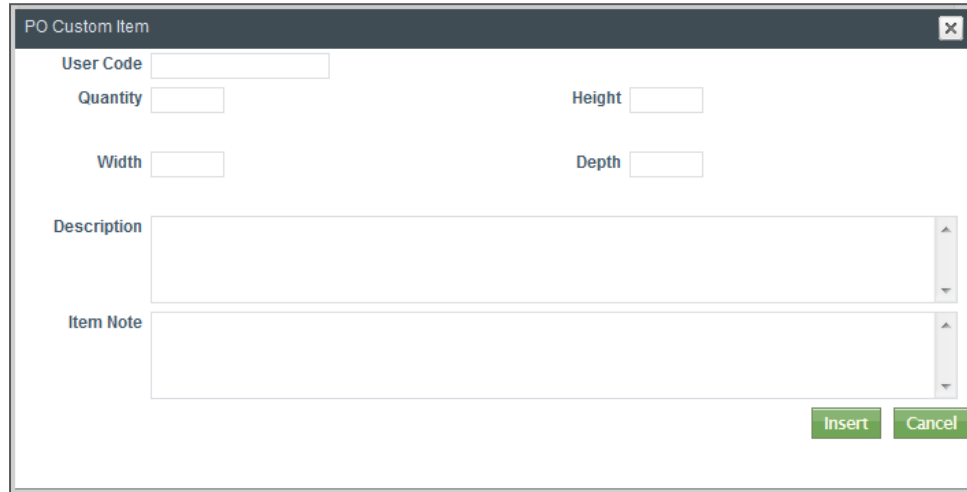

Figure 93: Custom Item Details
2. Enter the item’s details (**Figure 93**)